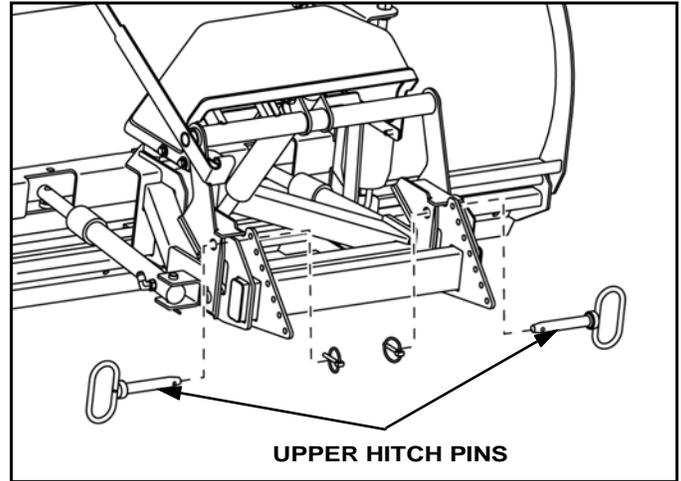

Figure 1-13
5. With plow still in float, insert upper hitch pins and secure with lynch pins. Use handle to help align holes if needed. (See Figure 1-13)